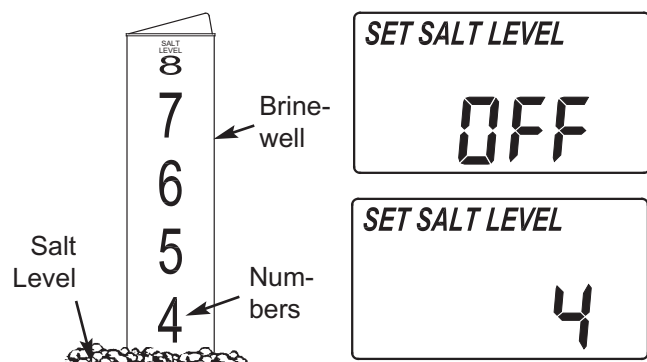

FIG. 20
2. The salt level scale, on the brinewell inside the tank, has numbers from 0 to 8 (See Fig. 20). Observe the highest number the leveled salt is at, or closest to.